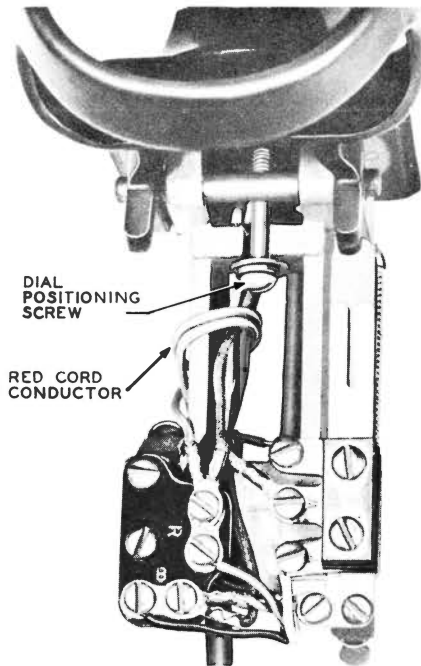

Fig. 17 — Wiring of Hang-up Type Hand Telephone Set
6.08 When terminating inside wire, leave sufficient slack to enable switchhook assembly to be reassembled in housing. Fig. 17 shows typical wiring of hang-up type hand telephone set.